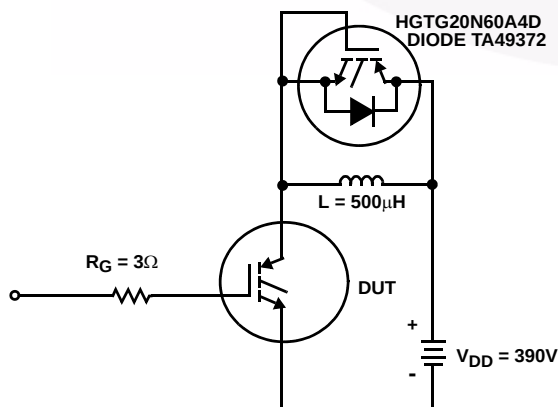

FIGURE 20. INDUCTIVE SWITCHING TEST CIRCUIT
| Current Turn-On Delay Time              | $t_{d(ON)I}$  | IGBT and Diode at $T_J = 25^{\circ}\text{C}$$I_{CE} = 20\text{A}$$V_{CE} = 390\text{V}$$V_{GE} = 15\text{V}$$R_G = 3\Omega$$L = 500\mu\text{H}$Test Circuit (Figure 20) | -                           | 15  | -         | ns                |
| Current Turn-On Delay Time          | $t_{d(ON)}$     | IGBT and Diode at $T_J = 125^{\circ}\text{C}$$I_{CE} = 20\text{A}$$V_{CE} = 390\text{V}$$V_{GE} = 15\text{V}$$R_G = 3\Omega$$L = 500\mu\text{H}$Test Circuit (Figure 20) | -   | 15  | 21   | ns                   |
- Values for two Turn-On loss conditions are shown for the convenience of the circuit designer.  $E_{ON1}$  is the turn-on loss of the IGBT only.  $E_{ON2}$  is the turn-on loss when a typical diode is used in the test circuit and the diode is at the same  $T_J$  as the IGBT. The diode type is specified in Figure 20.